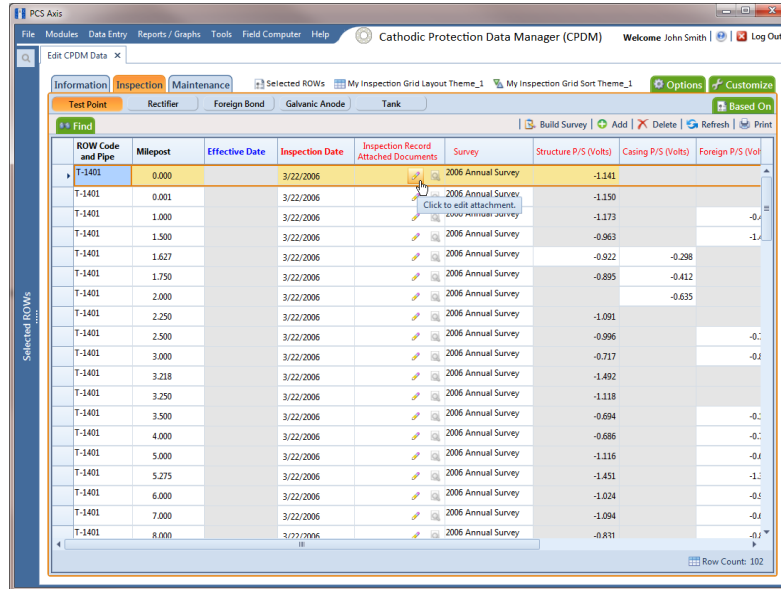

Figure 7-133. Attached Document Field
- 5 Click the edit icon  in the **Attached Documents** field for the grid record you plan to attach a document (Figure 7-133).